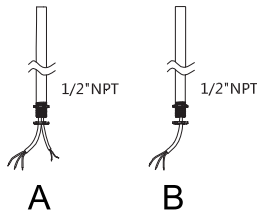

Figure 8
1. Unscrew the nuts on 1/2" NTP. (figure 8)